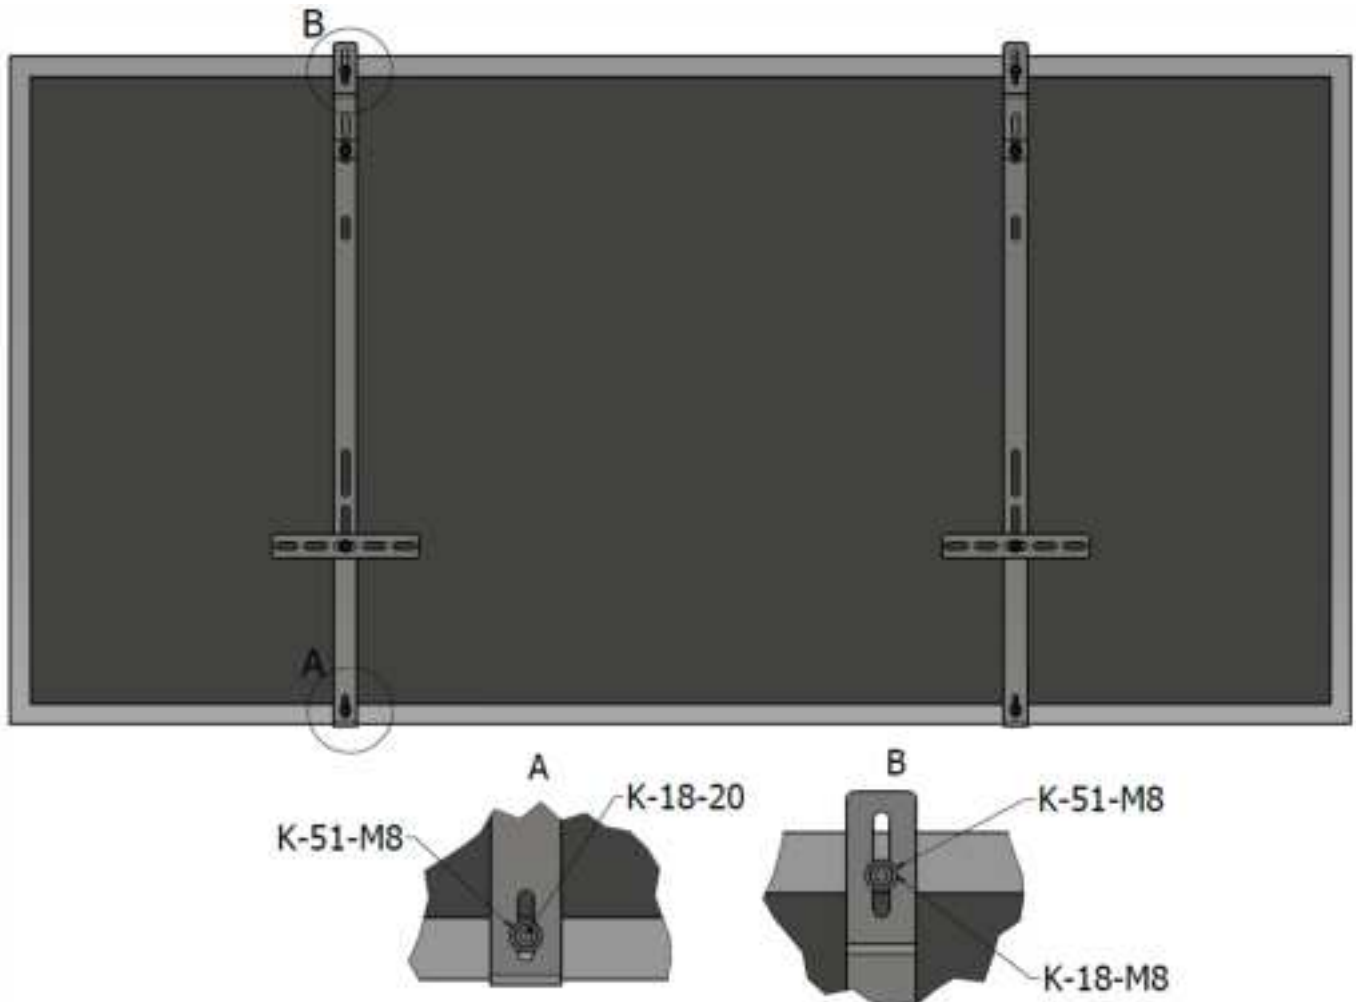
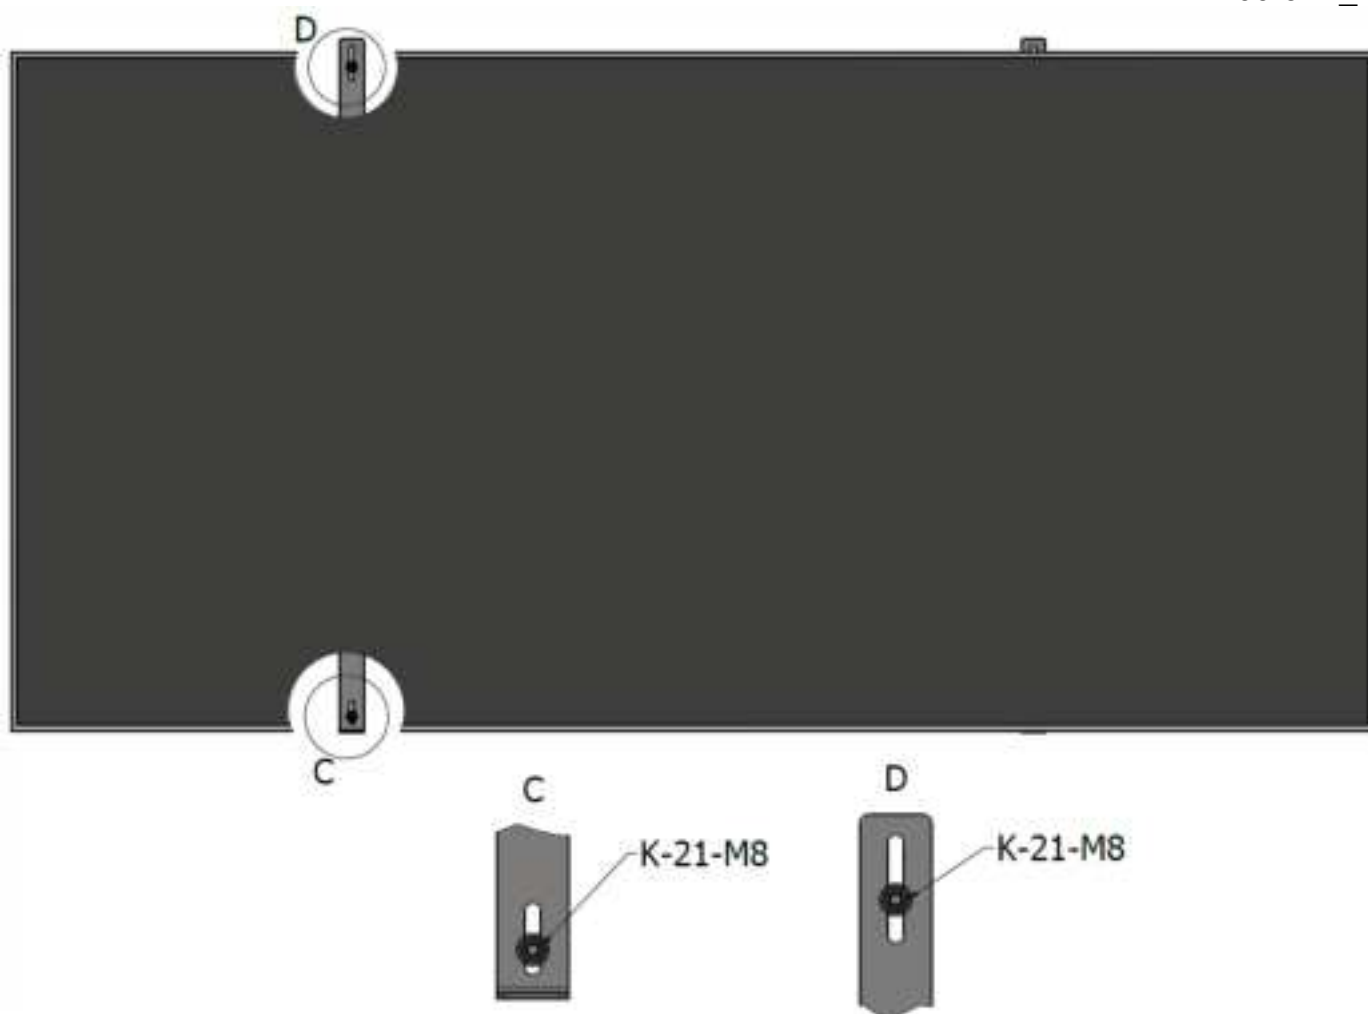

FIG.5 Installation of module (view I)
FIG.6 Installation of module (view II)
4. The next step is to bolt the module to the two pre-screwed hooks according to points 1 and 2. To do this, use four K-18-20 Allen screws, four K-51-M8 washers and four K-21-M8 nuts (FIG.5, FIG.6).